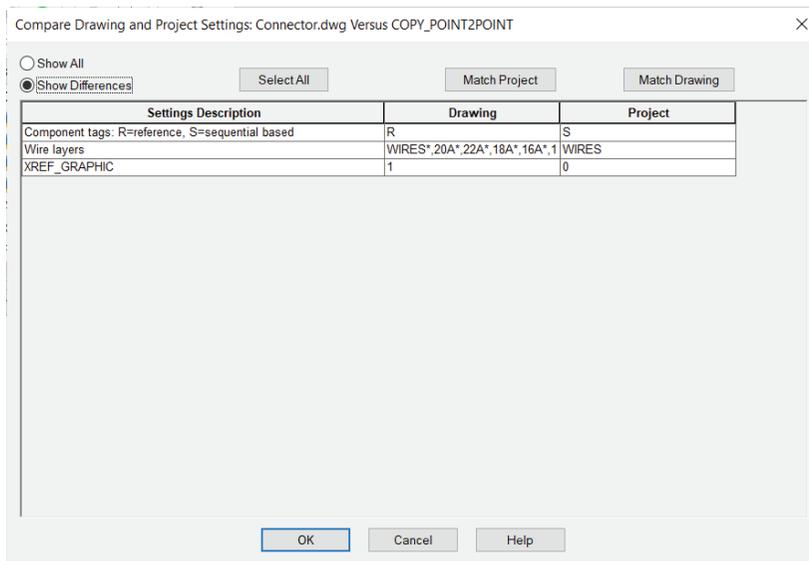

Figure 2-78 The Compare Drawing and Project Settings: DEMO007.DWG Versus COPY_POINT2POINT dialog box
2. Select the **Connector.dwg** from **Copy_Point2Point** in the **Projects** rollout and right-click; a shortcut menu is displayed. Choose **Properties** from the shortcut menu; a cascading menu is displayed. Choose **Settings Compare** from the cascading menu; the **Compare Drawing and Project Settings: Connector.dwg Versus COPY_POINT2POINT** dialog box is displayed, as shown in Figure 2-78.